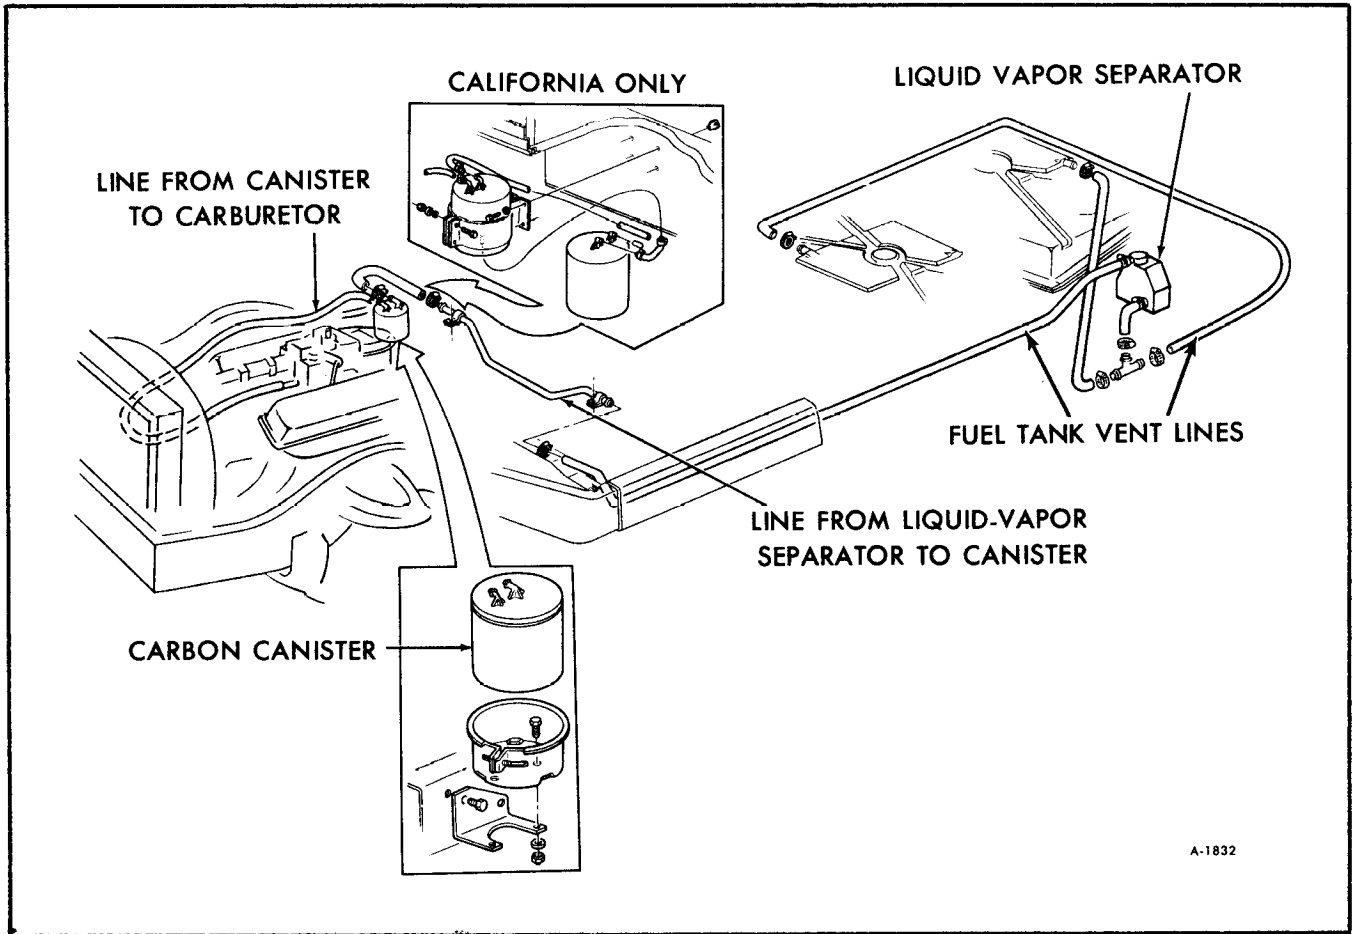

Figure 1—Evaporation Control System
In order to limit gasoline vapor discharge into the atmosphere, the following features are incorporated in the fuel system. The E.C.S. system (figure 1) is designed to trap fuel vapors which normally escape from the fuel tank. Vapor arrest is accomplished through the use of a charcoal canister(s) which absorbs the fuel vapors and stores them until they can be removed to be burned in the engine. Removal of vapors from the canister(s) to the engine is accomplished by a calibrated purge orifice in the carburetor. In addition to the carburetor modifications and the canister(s), the fuel tank requires a special
3. If vehicle is equipped with two canisters remove the lower canister clamp from bracket and slide canister and clamp out. See Figure 1.